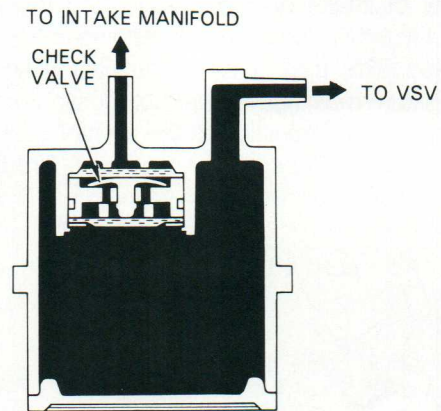

Figure 239-5
3. Vacuum Tank. The vacuum tank, which is constructed with a built-in (one-way) check valve, stores the vacuum used to operate the actuator (Figure 239-5). The result is more stable actuator operation.